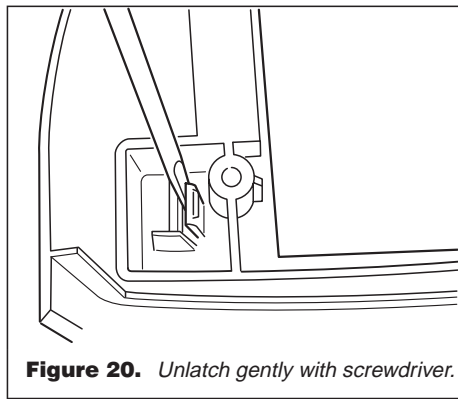

Figure 20. Unlatch gently with screwdriver.
4. Unlatch them gently with a screw driver while pulling the electronics housing assembly out. See figure 20.